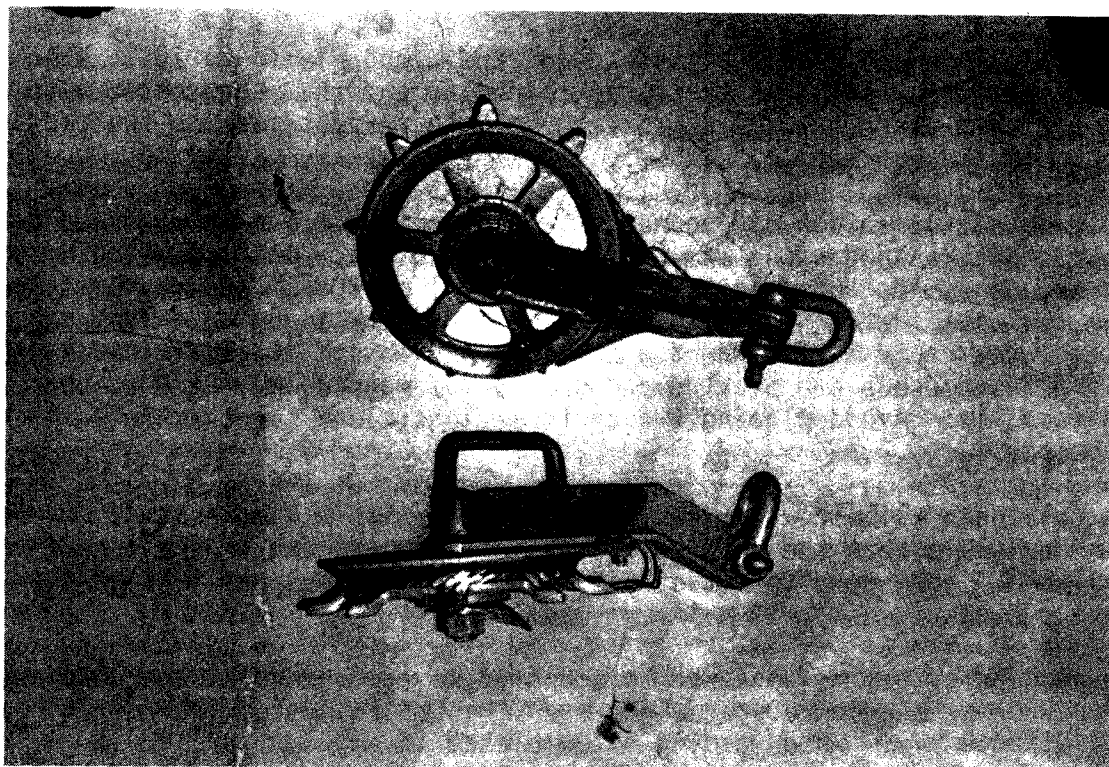

Figure 11 - The modified zig-zag block. The eye on top of the block arm was welded on by a local welder.
1. After starting up the operation and logs begin to come in, check each zig-zag block to see if it is retaining a near horizontal position as the yarded logs go past each block. If there is too much slack, insufficient angle between the support trees, or the zig-zag block is sagging considerably under the weight of the logs, the block needs to be relocated to a different support tree to obtain lesser angle or be replaced with a modified zig-zag block (Fig. 11). When the modified block is required, use a rope to support it in a horizontal position by tying the rope to the eye and a near by tree. If this doesn't work, then a zig-zag gear block must be used. If this isn't corrected, the guide wings on the zig-zag block will cut the choker line as the log tries to pass by it or it could cause the cable to jump out of the block.